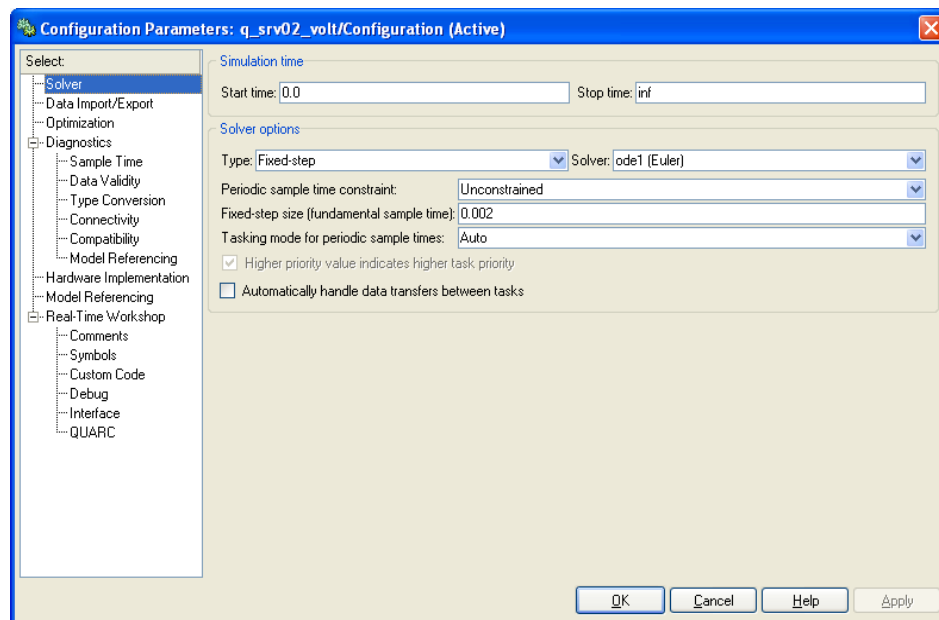

Figure A.4: Default QUARC solver settings
2. To view the compiler options shown in Figure A.4, go to QUARC | Options in the Simulink® model tool bar.